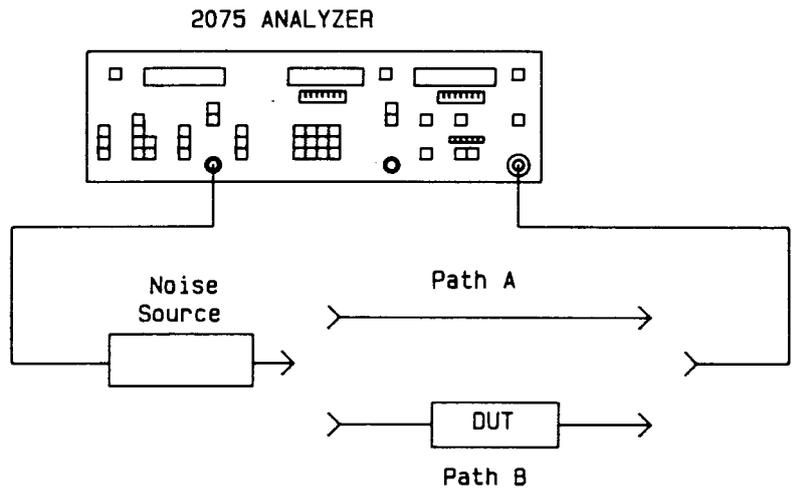

Figure 3-27. INSERTION LOSS MEASUREMENT WITH 2075
7. Connect the noise source to the input of the 2075 as shown in Path A of Figure 3-27 below.
10. After the calibration is complete, connect the DUT as shown in Path B of Figure 3-27 below.